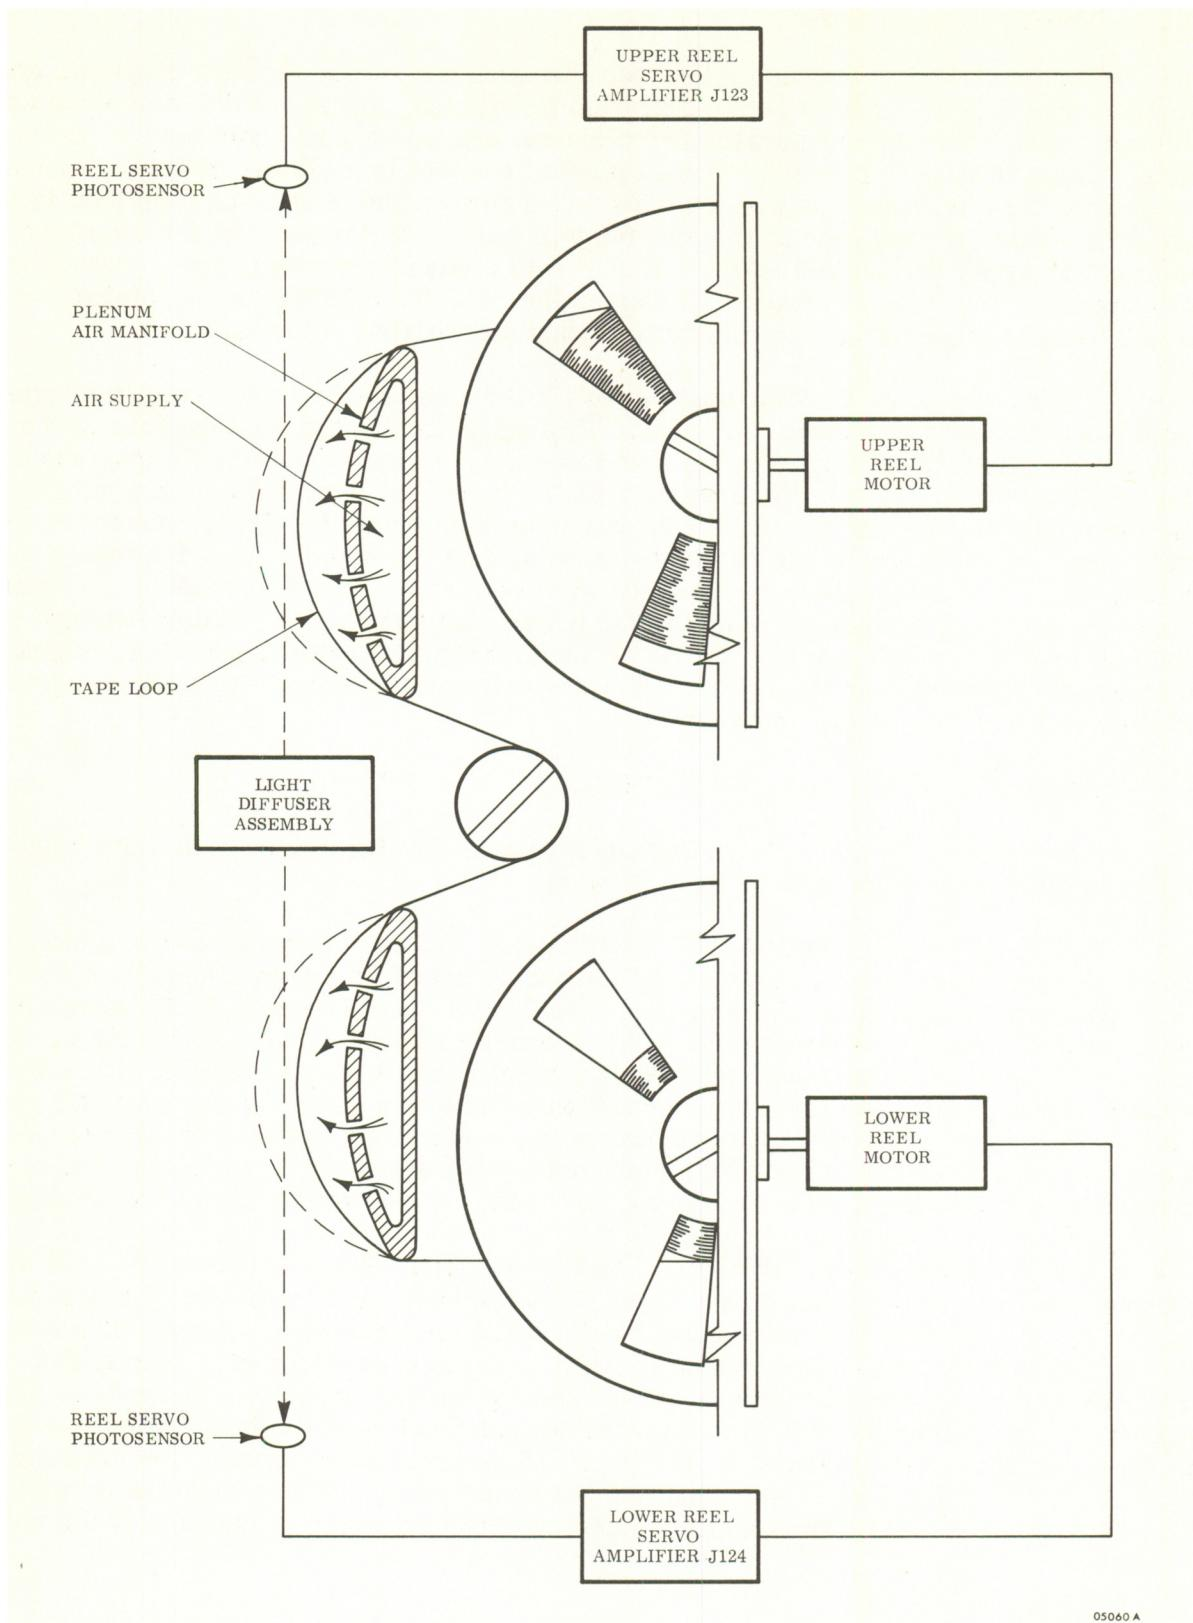

Figure 4.2-9. Reel Drive System, Functional Block Diagram
4.2-38 The functional relationship between the elements of the reel drive system are shown in Figure 4.2-9. The reel drive system is "slaved" to the capstan drive system by a sensing arrangement that incorporates two plenums and associated photoelectric sensing circuits. Ports in the air manifold of each plenum connect to a blower motor. Because the capstan is pulling tape from one reel and pushing it toward the other, the tape loop in the plenum on the take-up reel side at the capstan will tend to be larger than the tape loop in the plenum on the supply reel side of the capstan. This tendency, sensed by the photoelectric sensing circuits, provides feedback that causes the reel drive motors to accelerate or decelerate individually as necessary to maintain a constant position of the tape.